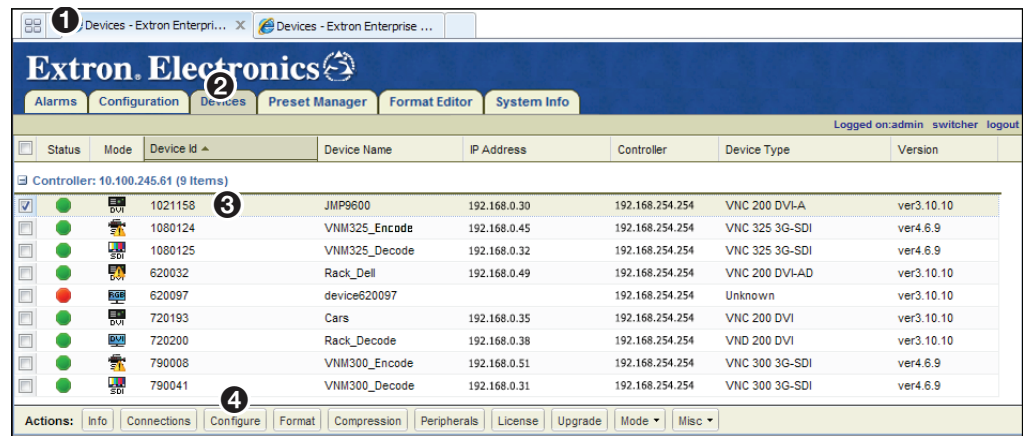
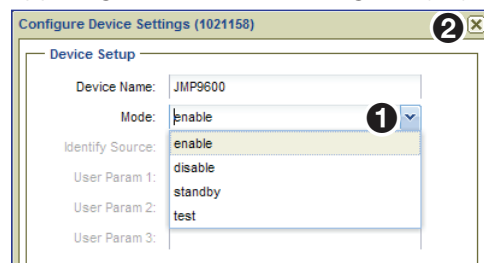

Figure 146. Devices Page
Figure 147. Configure Device Settings Dialog Box
3. **Click the left tab** (see figure 146, ①). Select the **Devices** page (②) and choose a VN-Matrix 2xx series decoder from the device list (③). A checkmark appears in the checkbox to the left of the decoder row.
4. From the Actions menu bar located at the bottom of the **Devices** page, click **Configure** (see figure 146, ④). The **Configure Device Settings** dialog box opens (see figure 147).
5. Select **enable** from the **Mode** drop-down list (see figure 147, ①). Click the **X** in the upper right corner of the dialog box (②) to close the dialog box.